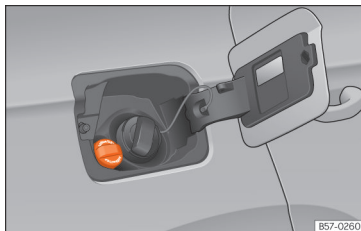

Fig. 280 AdBlue tank cap.
- Open the tank cover »» Fig. 280.
- » **Fig. 280.**